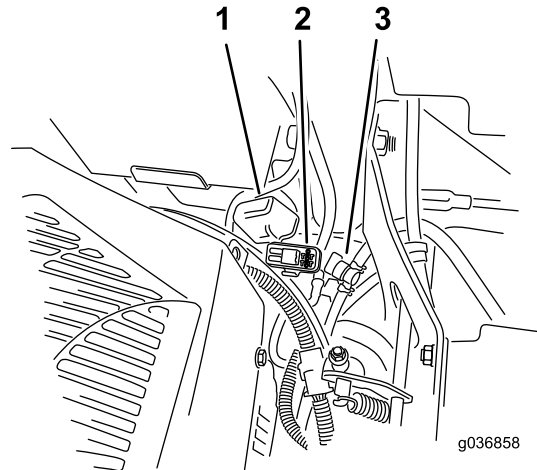

Figure 54
Note: For MyRide machines, ensure that the ground cable does not rub against the trailing arm or lower shock mount (Figure 54).
The fuses are located on the right console next to the seat (Figure 54).
- Install a new fuse (Figure 54).